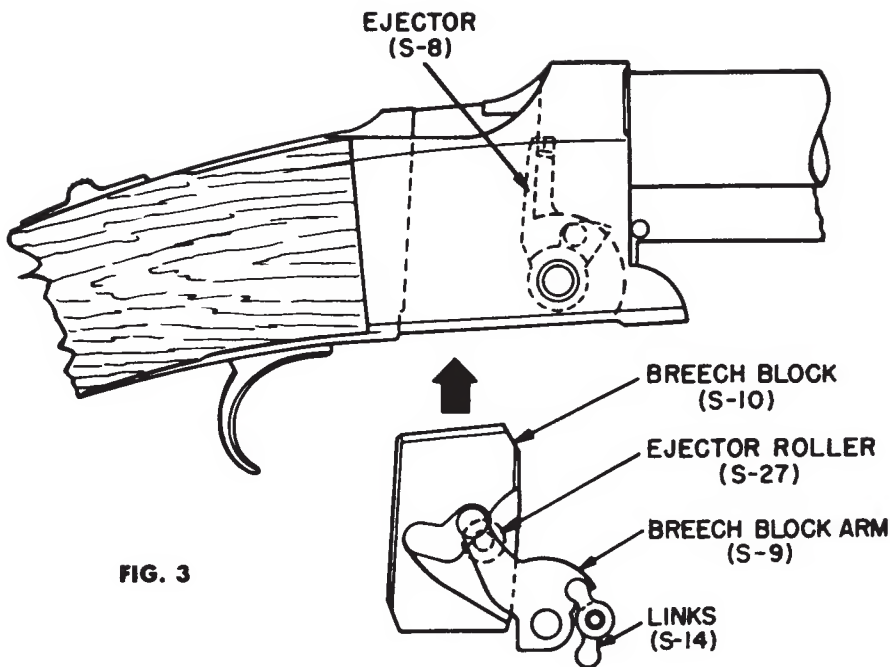

FIG. 3
2. Assemble breech block, breech block arm, ejector roller and linkage as shown in figure 3 and replace as a unit in receiver while holding the ejector against the inside receiver wall.